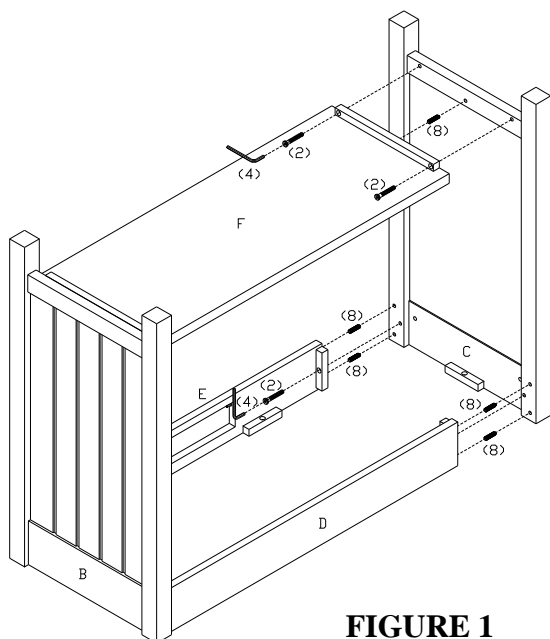

FIGURE 1
3. INSERT WOOD DOWELS (8) INTO PREDRILLED HOLES ON ENDS OF SHELF (F), FRONT AND BACK PANELS (E, D) AND FIT INTO CORRESPONDING HOLES ON INSIDE OF LEFT AND RIGHT SIDE PANELS (B, C). INSERT SHORT MACHINE SCREWS (2) THROUGH PREDRILLED HOLES ON WOOD BARS ON PARTS (D, E, F) AND TIGHTEN INTO PRETHREADED HOLES ON LEFT AND RIGHT SIDE PANELS (B, C) BY USING WRENCH (4). (AS SHOWN IN FIGURE 1)